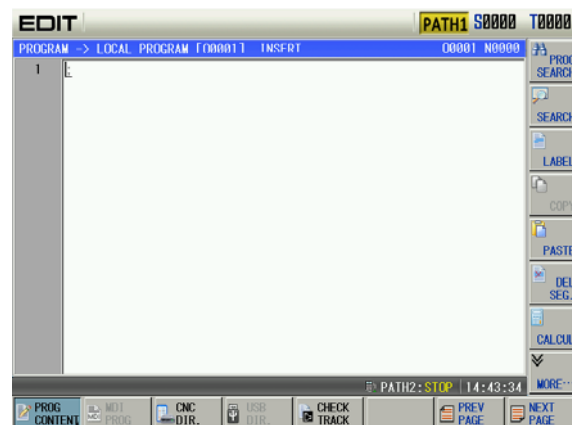

Fig 2
- 2) Press  ( or  ) to create the new program. The current page is automatically switched into the program content page.,refer to the following Fig 2;